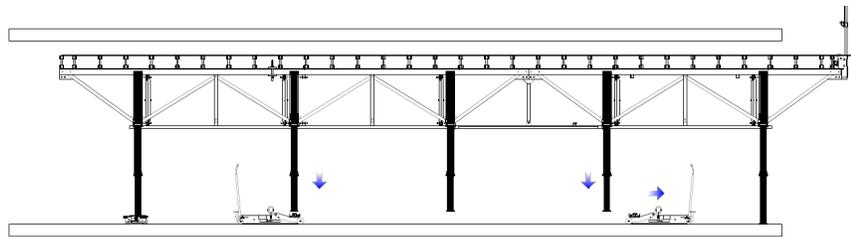

Fig. A3.04
4. Lower the SKYTABLE evenly by lowering the hydraulic lowering devices simultaneously onto the swivel castors and the front props. (Fig. A3.04)